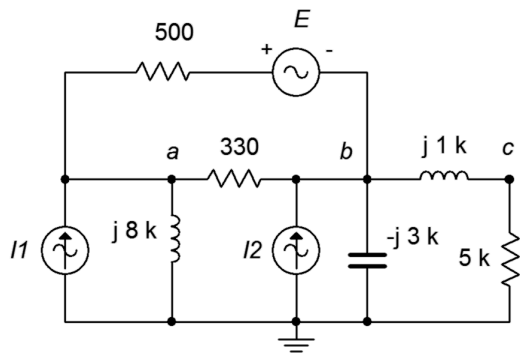

Figure 6.31
66. Given the circuit in Figure 6.31, use nodal analysis to find v_{ac} . $I_1 = 8E-3\angle 0^\circ$, $I_2 = 12E-3\angle 0^\circ$, $E = 50\angle 0^\circ$.